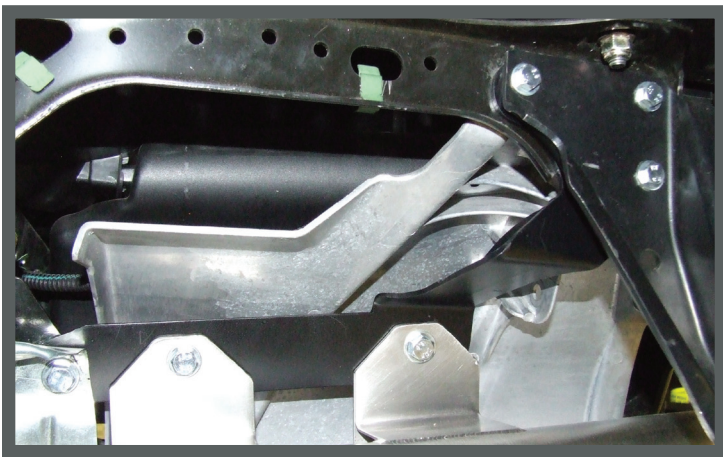

Figure 3
1. Install the supplied bracket using the (3) supplied **M6 bolts, washers and stock nyloc nuts**. (*Top right bolt will not use a nyloc nut. It will thread into the OE nut-sert clip.*) Use the supplied M8 bolt, washers and nyloc nut on front bracket hole. (See Fig. 3)